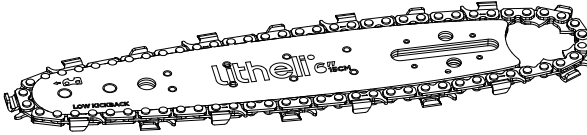

Fig. 2
2. Slide the chain in the slot around the guide bar, making sure the chain is installed in the correct rotation direction. (Fig. 2)